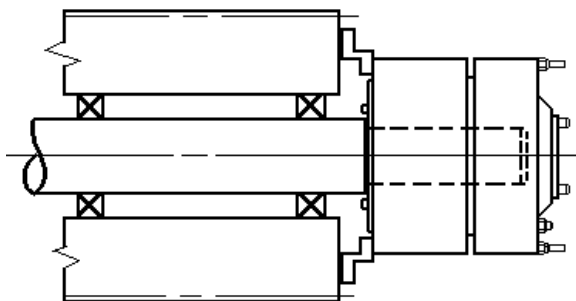

Figure 4
2.1.3 Bearing mounting, as in Figure 4, is similar to quill mounting except the quill shaft is supported by bearings. This arrangement ensures accurate clutch alignment.